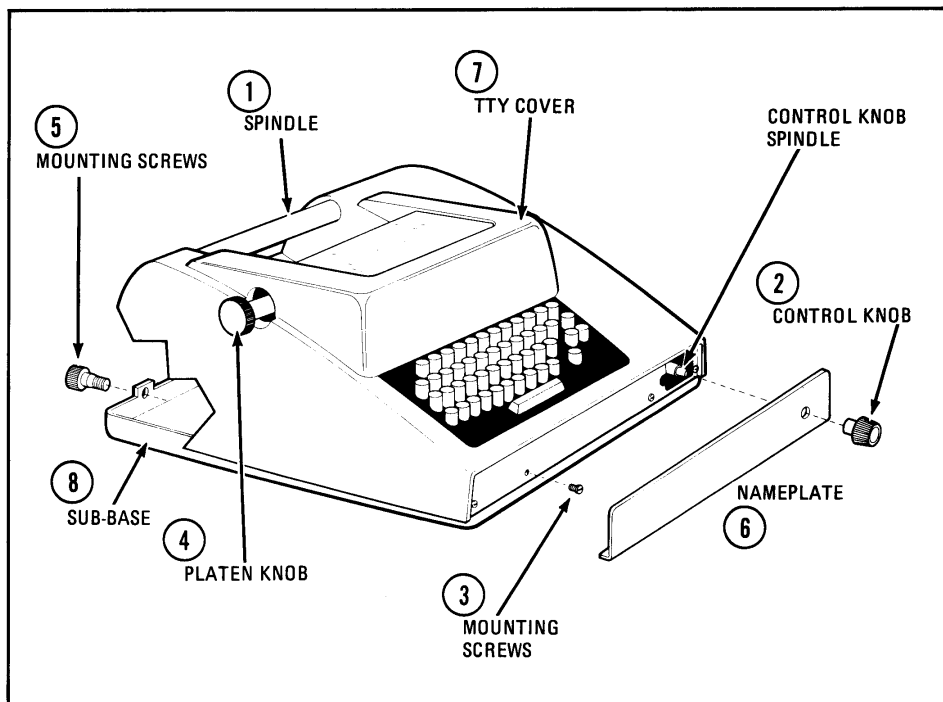

Figure 2-3 Model 33 Teletypewriter Cover Removal
**2.3.1 TTY Cover Removal.** Follow these procedures to remove the TTY cover. Refer to Figure 2-3.
8. On Automatic Send-Receive (ASR) TTYs, unscrew the slot-head screw from the left rear corner of tape reader cover (not shown in Figure 2-3).